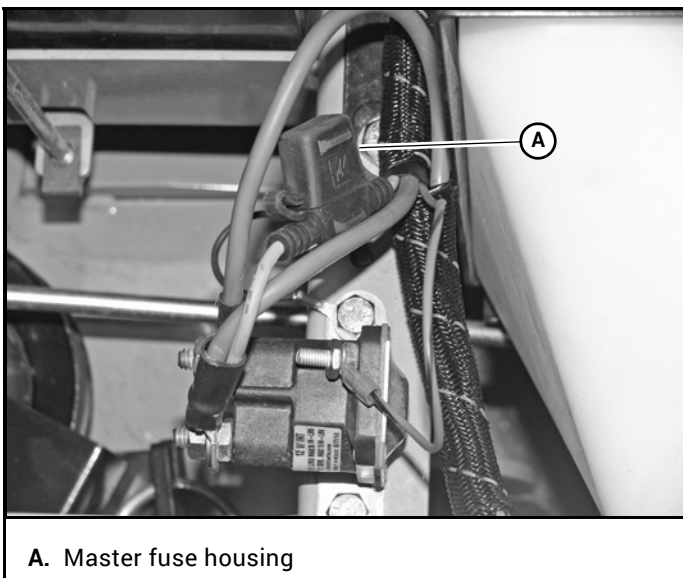

Figure 4-1
- A. **Master in-line fuse (30 amp)** – Main fuse to protect the complete electrical system. It is located under the seat platform next to the solenoid. Figure 4-1